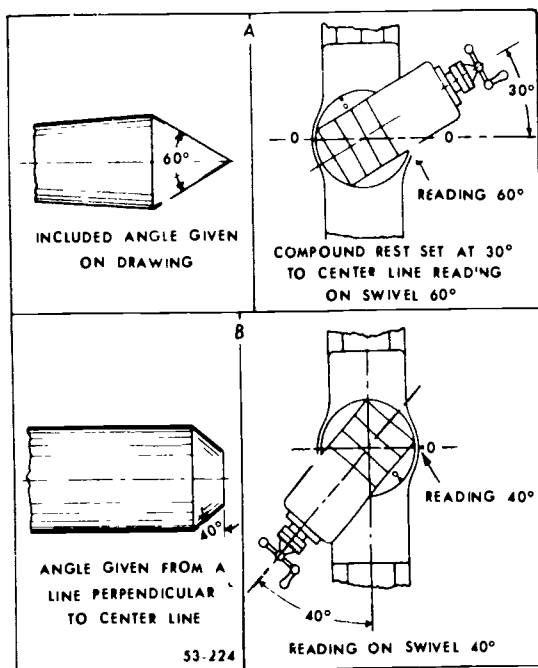

Figure 5-19 Setting the compound rest.
**Taper Turning with the Compound Rest.** Both external and internal tapers can be turned with the compound rest. You use the compound rest primarily to machine short, steep tapers, since the length of the taper that can be cut is restricted to the distance the compound can be moved. Position the compound rest at an angle measured from the centerline of the work, figure 5-19,A, or from a line perpendicular to the centerline of the work, figure 5-19,B. For example, the 40° angle in figure 5-19,B, is measured from a line perpendicular to the centerline of the work. In order to machine this angle you must first position the compound rest perpendicular to the centerline, and then move it the required 40°. The graduations on the base of the compound rest swivel represent 1°. You obtain fractions of a degree by estimating the fractional spacing between divisions.